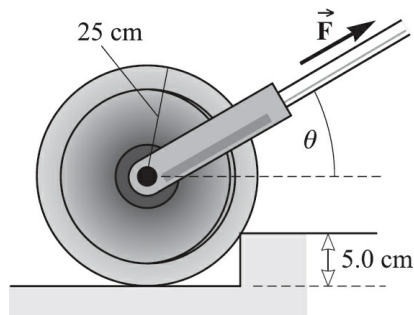

Fig. 5-22
5.32 [III] A 900-N lawn roller is to be pulled over a 5.0-cm high curb (see Fig. 5-22). The radius of the roller is 25 cm. What minimum pulling force is needed if the angle θ made by the handle is (a) 0° and (b) 30° ? [Hint: Find the force needed to keep the roller balanced against the edge of the curb, just clear of the ground.]